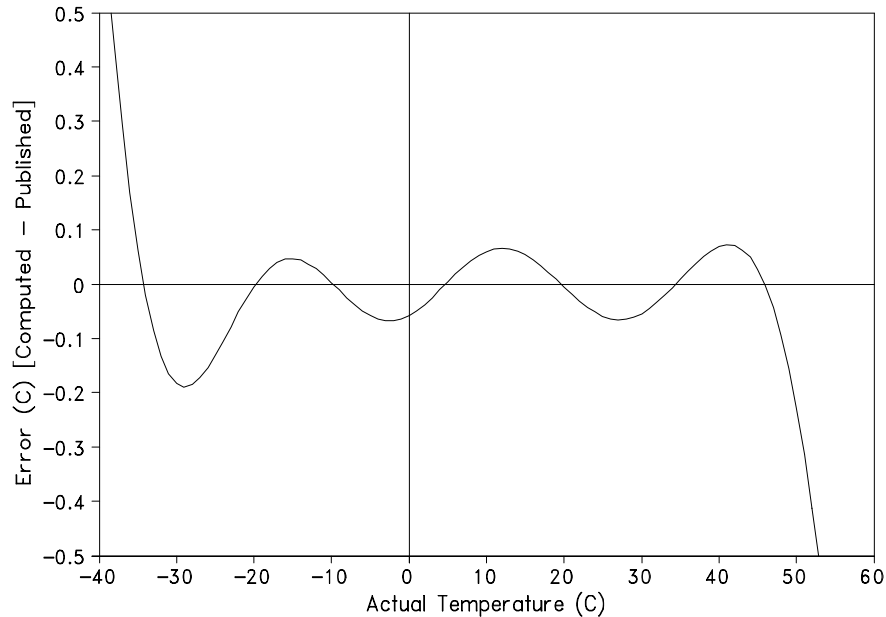

FIGURE 1. Error Produced by Polynomial Fit to Published Values
-38° to 53°C. The major error component is the interchangeability specification of the thermistor, tabulated in Table 1. For the range of 0° to 50°C the interchangeability error is predominantly offset and can be determined with a single point calibration. Compensation can then be done with an offset entered in the measurement instruction. The bridge resistors are 0.1% tolerance with a 10 ppm temperature coefficient. Polynomial errors are tabulated in Table 2 and plotted in Figure 1.